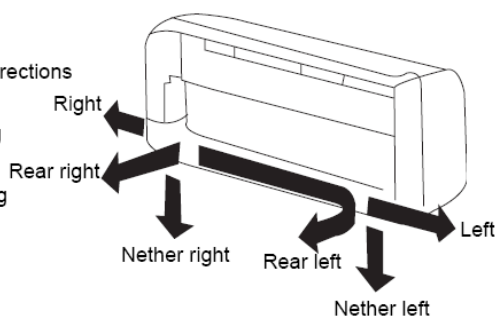

Fig.11-2
- As shown in fig.11-2, pipe can be led out by 6 directions each of which can be selected in necessity.